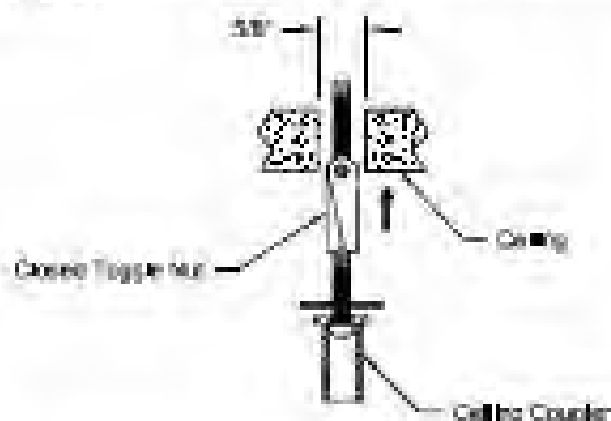

Figure 2
3. Make 3/8 inch diameter hole through Ceiling. See Fig. 2.
1. Press Toggle Nut Closed and slide through 3/8 inch hole in Ceiling. See Fig. 2.